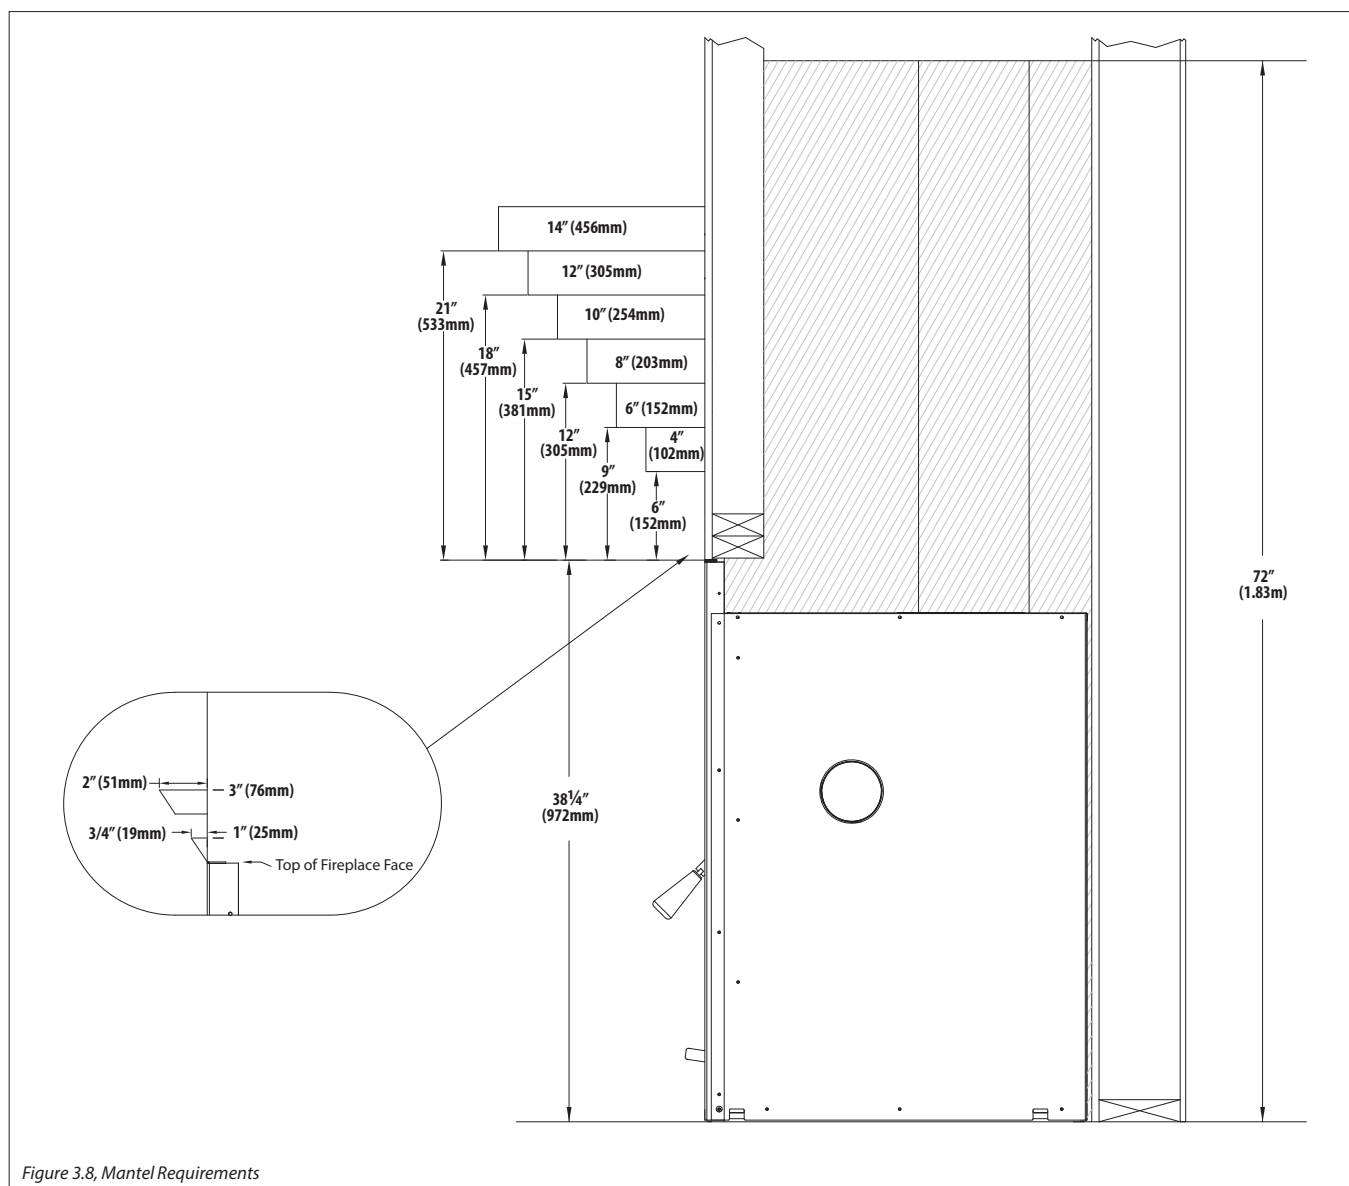

Figure 3.8, Mantel Requirements
- If installing a mantel (combustible material may be used), follow Figure 3.8 below.